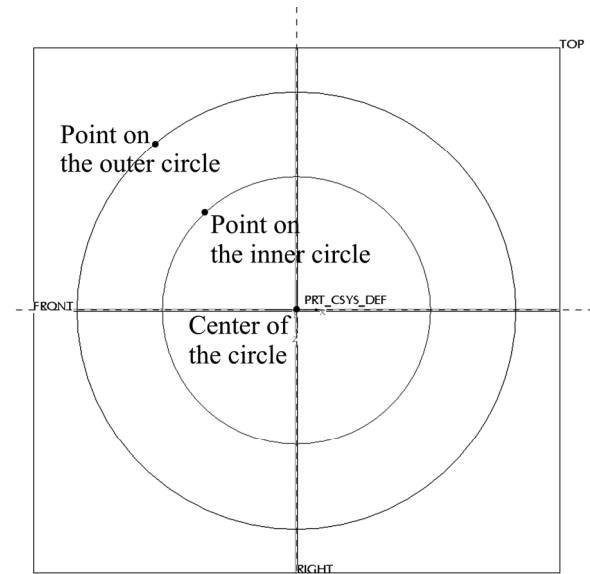

Fig. 2.10.
10. Create an inner circle.	<p> → Select the center of the circle as the intersection of the FRONT and RIGHT datum planes → Select a point to define the inner circle</p> <p>Refer to Fig. 2.10.</p>